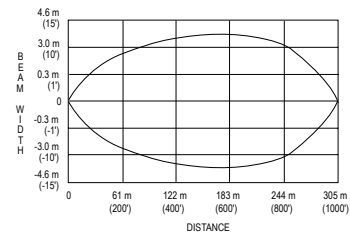

Figure 1. Beam Pattern
1. When multiple sensors are used in close proximity (see Figure 1 for separation distance), position sensors such that the alternate frequency emitter is not within the receiver's field of view. Contact the Banner Application team for additional information.